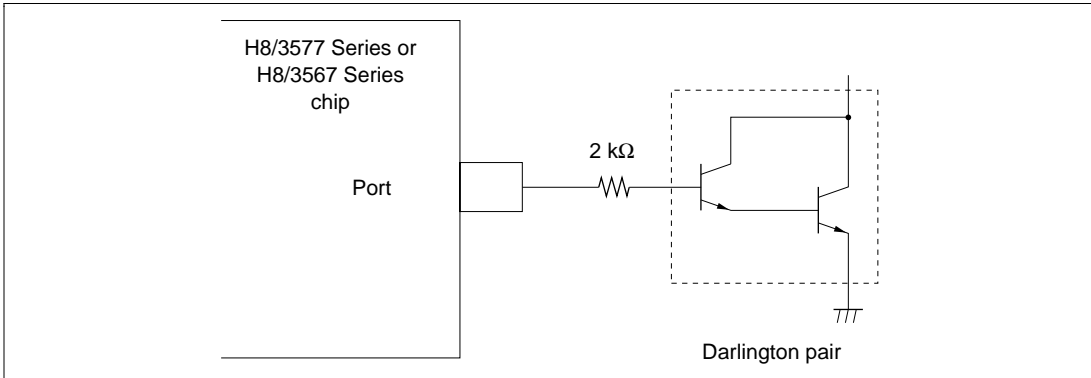

Figure 22.1 Darlington Pair Drive Circuit (Example)
2. When driving a Darlington pair or LED, always insert a current-limiting resistor in the output line, as show in figure 22.1.